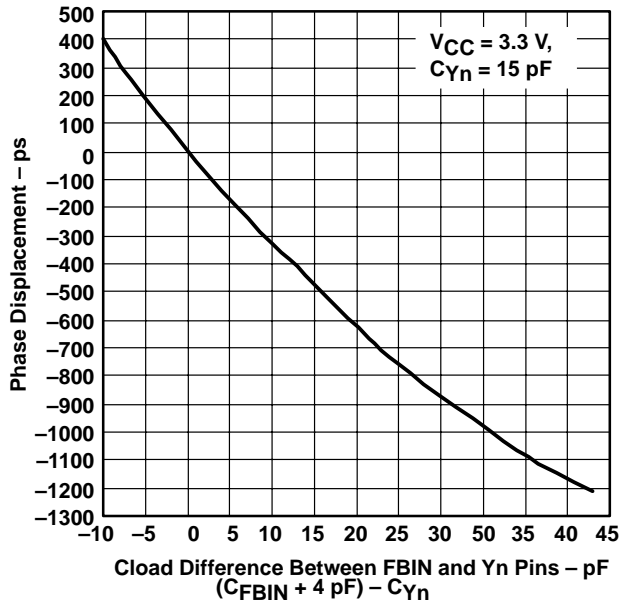

Figure 5
5. Similar waveform at CLKIN and FBIN are required. Output 1Y3 is used as a feedback to FBIN loaded with 11 pF and all other outputs have 15 pF. For phase displacement between CLKIN and Y-outputs, see Figure 5.